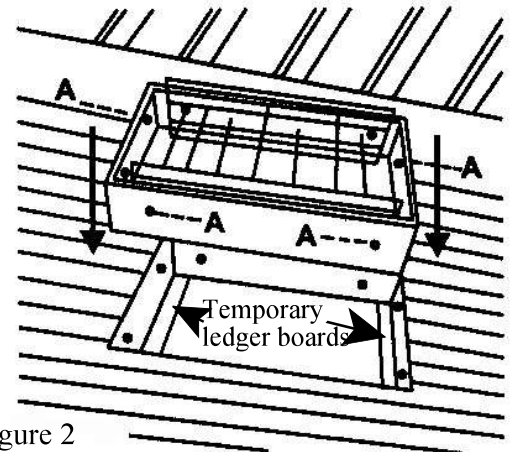

Figure 2
5. Lift the stairs through the opening in the ceiling and lower the unit onto the temporary support ledgers. Make sure that the hinged end of the cover is installed so that the stairs open in the desired direction (Fig.2).